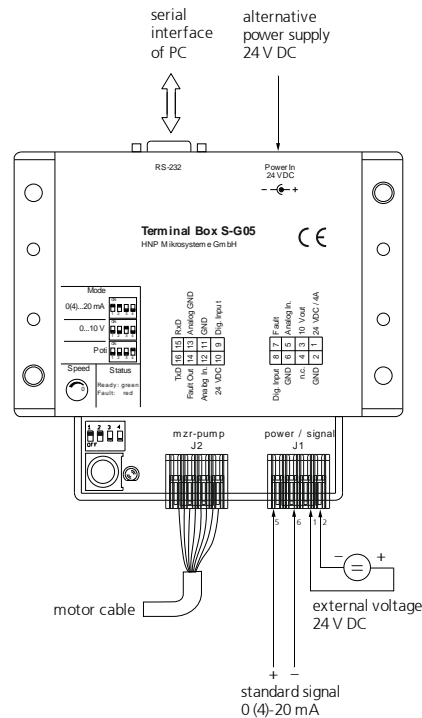

figure 47
4. Connect the external current source to the screw clamps »AnalogIn« and »GND« to the S-G05. (see figure 47).